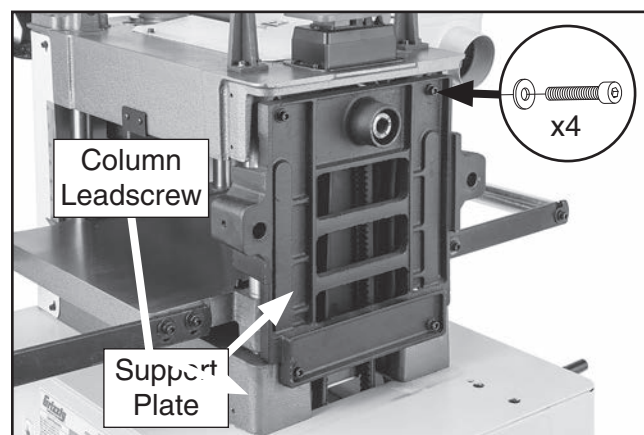

Figure 54. Location of support plate.
8. Remove (4) cap screws securing support plate to planer cabinet (see **Figure 54**), then remove support plate.
Note: We strongly recommend lubricating planer table column leadscrews (located beneath support plate pictured in **Figure 54**) while completing belt change operation. See **Lubrication** on **Page 39** for more information.